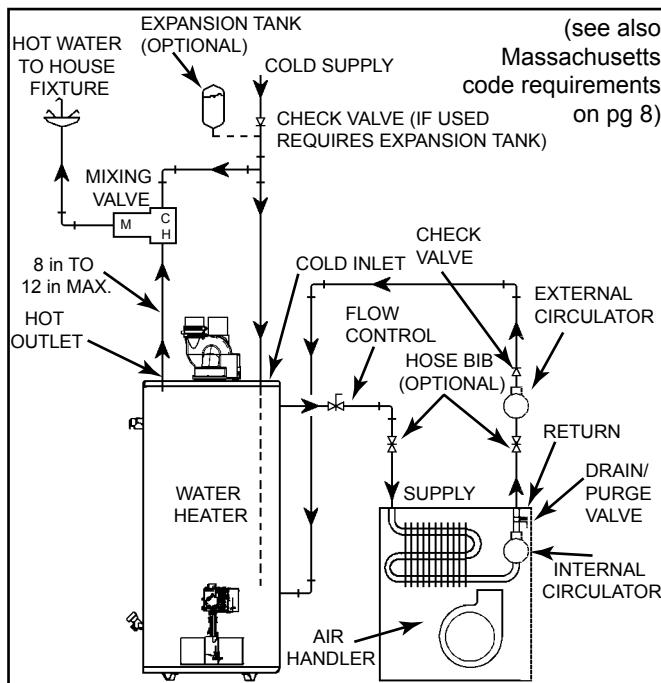
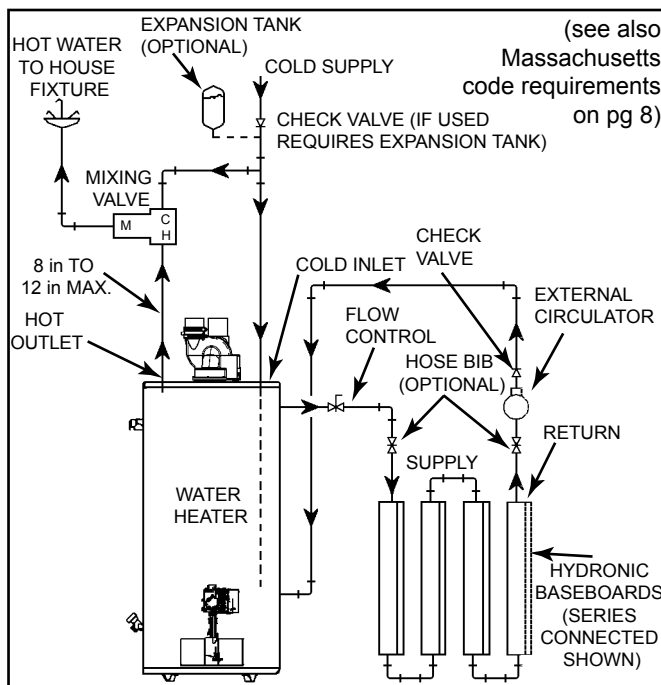

Figure 21.
Figure 22.
8. “Combo” Heating Systems require higher water temperatures than other applications. When the system is used to supply water for Combo Heating applications, a means, such as mixing valve, must be installed to temper the water in order to reduce scald hazard potential (see Figure 21 & Figure 22).
- A. A fan coil/air handler (Figure 21).
- B. A hydronic baseboard (finned tube) loop/In floor heating (Figure 22).
Figure 21 shows typical attachment of water piping to the water heater. The water heater is equipped with 3/4" NPT water connections.